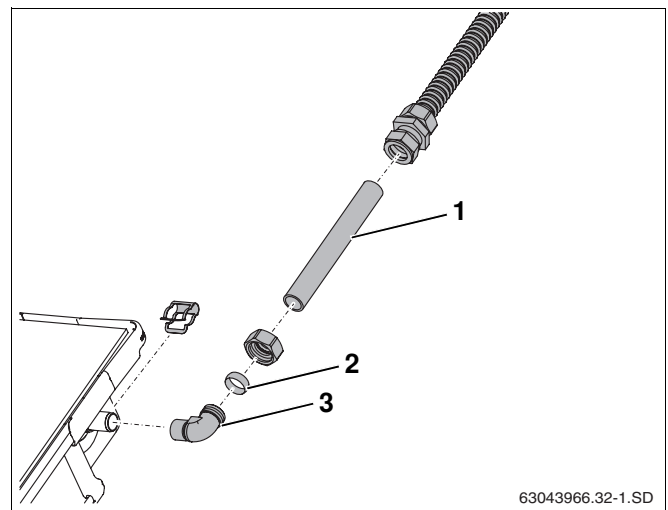

Fig. 61 Lengthening the connection pipe
- Fit olive (Fig. 61, **Item 2**) and nut to bracket (Fig. 61, **Item 3**).
- Push copper pipe (cut to appropriate length) (15 mm, Fig. 61, **Item 1**) into compression fittings.